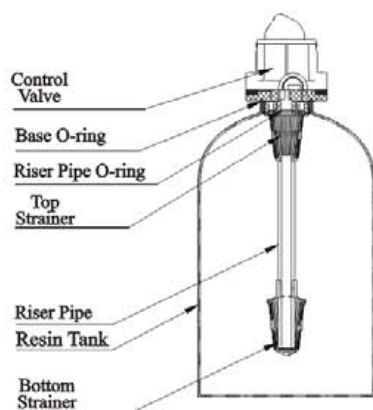

Figure 1-1
- a. As the Figure 1-1 shows, select the riser pipe with 26.7mm OD, glue the riser pipe to the bottom strainer and put it into the mineral tank, cut off the exceeding tube out of tank top opening. Plug the riser tube in case of mineral entering.